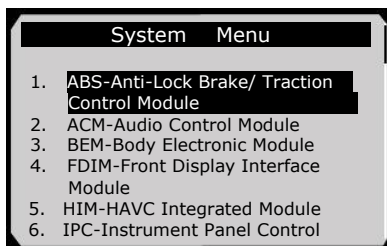

Figure 5.18
- **NOTE:** The actual systems displayed in the **System Menu** screen may be different from Figure 5.18 due to various vehicle configurations.